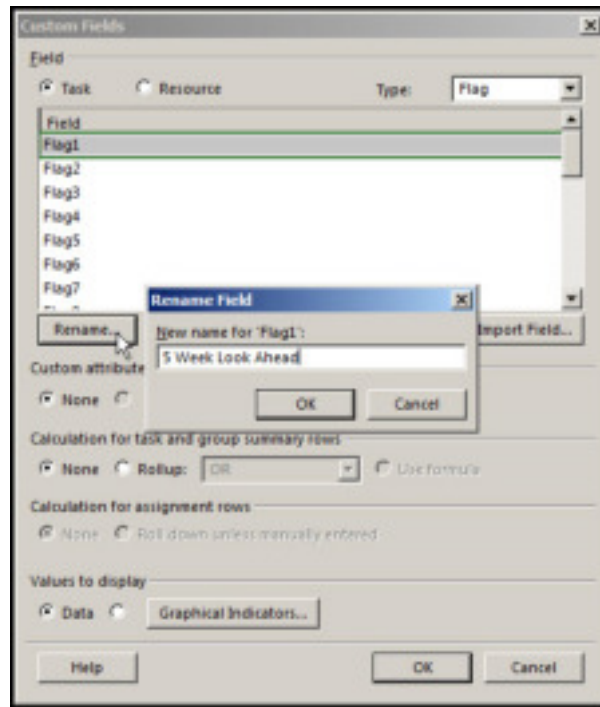

Figure 3
- B. In the custom fields dialog, Figure 3, select the type Flag from the drop-down menu. Rename Flag1 "3 Week Look Ahead".